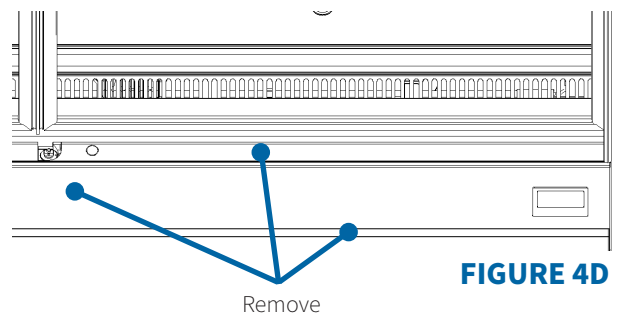

FIGURE 4D
2. Remove the metal cover, front bumper and front panel as per Figure 4D.